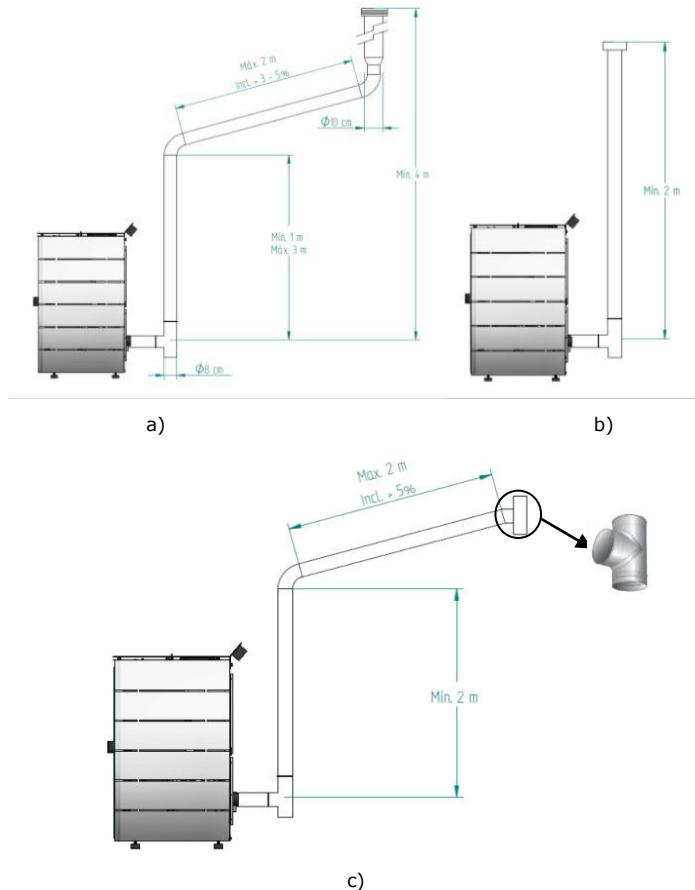

Figure 6 - Examples of standard installations
- As illustrated in Figure 6, the exhaustion path must have inspection slots along the duct to facilitate the performance of periodic cleaning and maintenance operations.
A T-tube must be installed at the base of the pipe to allow periodic inspections and annual maintenance, as illustrated in Figure 6.
Figure 6 illustrates the basic requirements for installing the flue onto the unit.